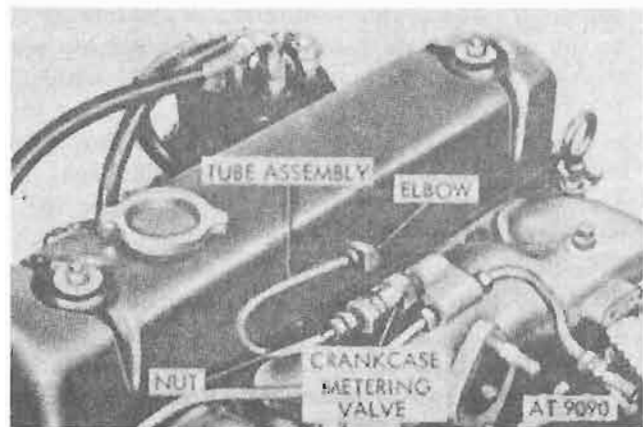

Figure 4-286. Crankcase ventilation outlet tube assembly and attaching parts.
Connect one $\frac{1}{4}$ NPT $\times\frac{1}{2}$ -20, 90° elbow (1) to rocker arm cover; tighten and position elbow. Connect one $\frac{1}{5}$ NPT $\times\frac{1}{2}$ -20 nut (3) to crankcase metering valve. Install tube assembly (2) and tighten tube nuts firmly (fig. 4-286).